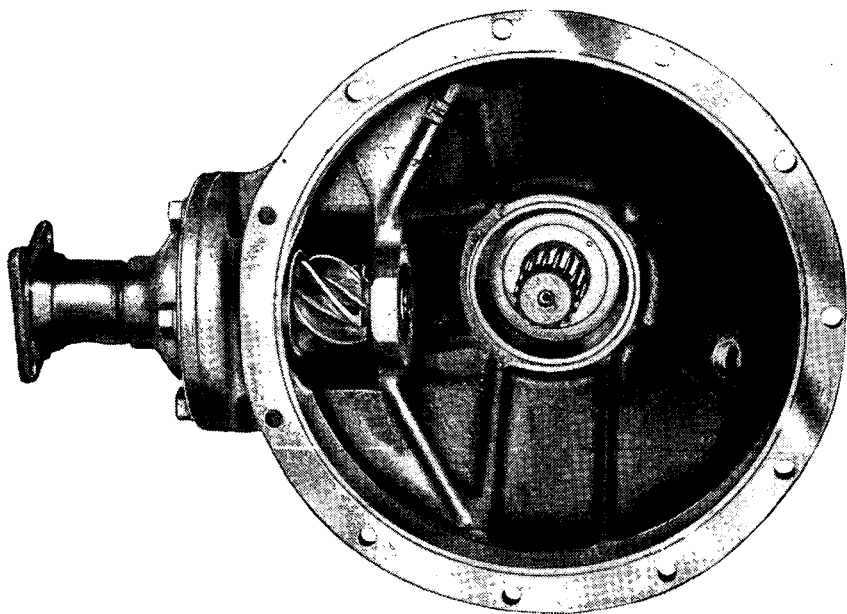

FIGURE 28.—Front axle drive pinion, installed.
(5) Remove bevel gear thrust block—drift, hammer. Drive out thrust block (B184450) and pin (A159553).
(6) Pull out case assembly. Remove differential case assembly from left half of housing. Care should be taken not to damage splines (fig. 28).